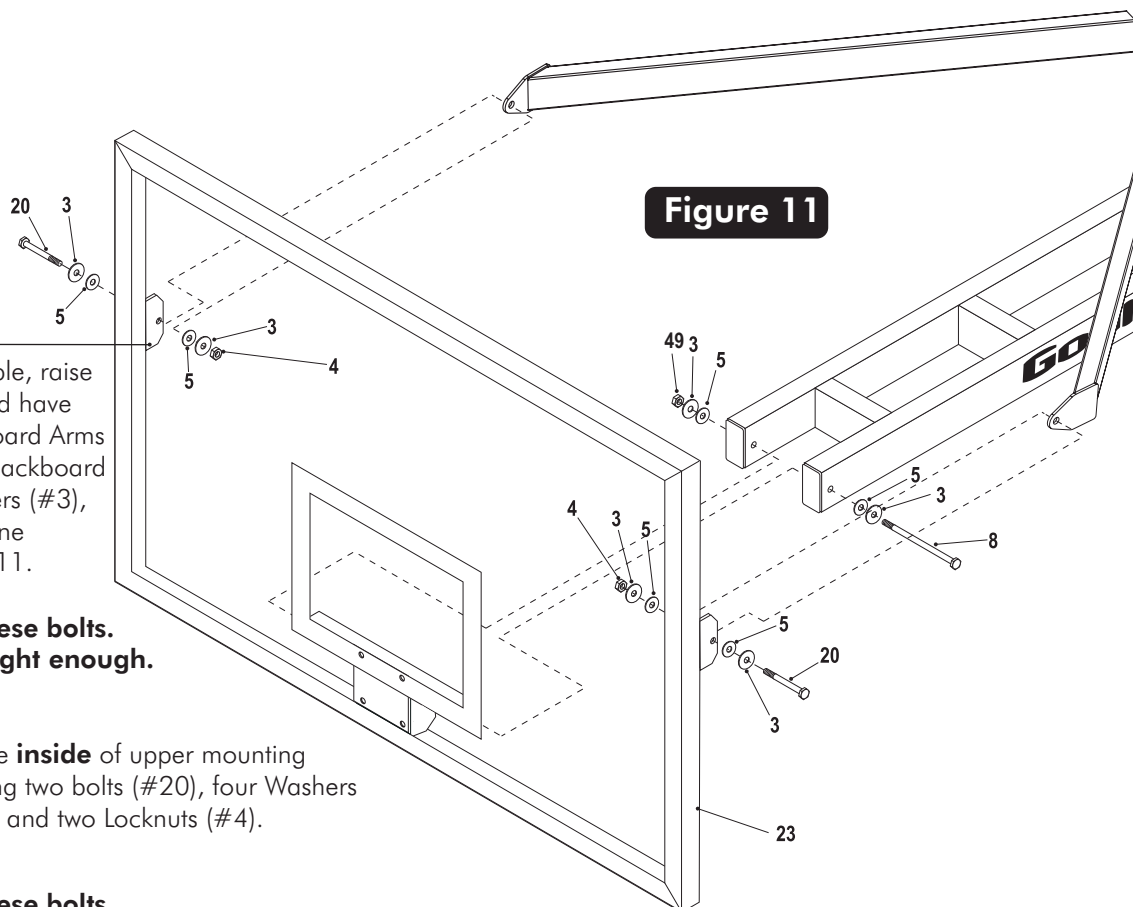

Figure 11
16. With at least four capable people, raise the backboard assembly up and have the fifth person attach Lower Board Arms to the Rim Support (#21) on backboard using one bolt (#8), two washers (#3), two Plastic washers (#5) and one thin locknut (#49). See Figure 11.
17. Attach Upper Board Arms to the **inside** of upper mounting brackets on the backboard using two bolts (#20), four Washers (#3), four Plastic Washers (#5) and two Locknuts (#4). See Figure 11 and Detail A2.